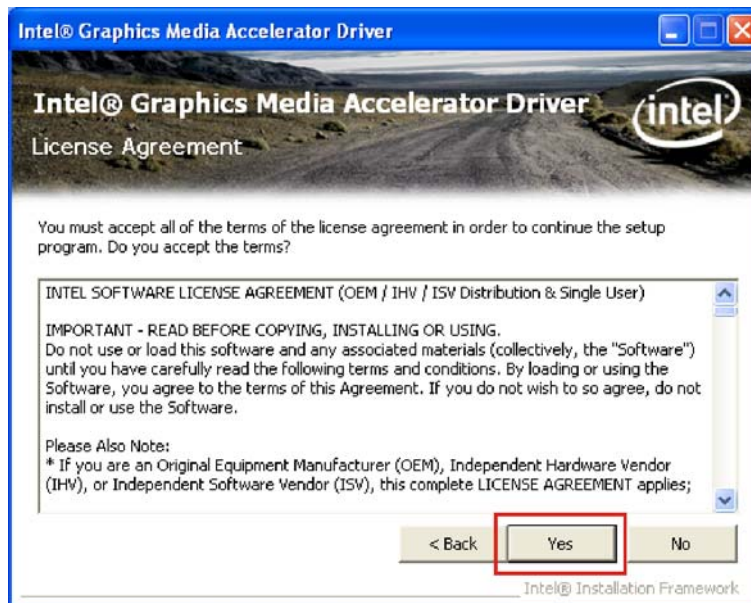

Figure 6-13: VGA Driver License Agreement
Step 10: The license agreement in **Figure 6-13** appears.